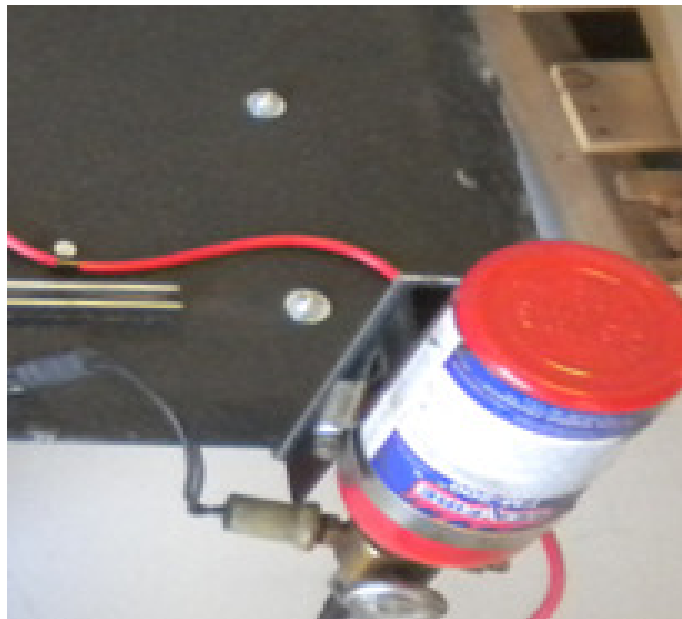

Fig 11 – Fire suppression bracket installed
- n. Mount the new bracket assemblies onto both lids using two 1/4-20 UNC bolts 3/4" long (**NFI PN 10B04012**), two 1/4" lock nuts (**NFI PN 40N04000**) and four 1/4" washers (**NFI PN 10W04000**). Insert bottle gauge side out and tighten down clamp. See Fig 11